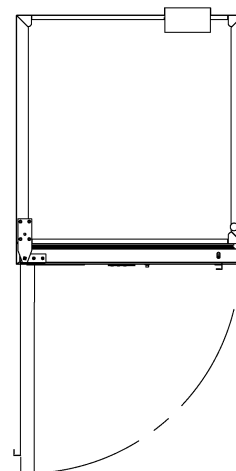

Fig 4.
- The incubator door should also be allowed to open and close at full range. **(Fig 4)**